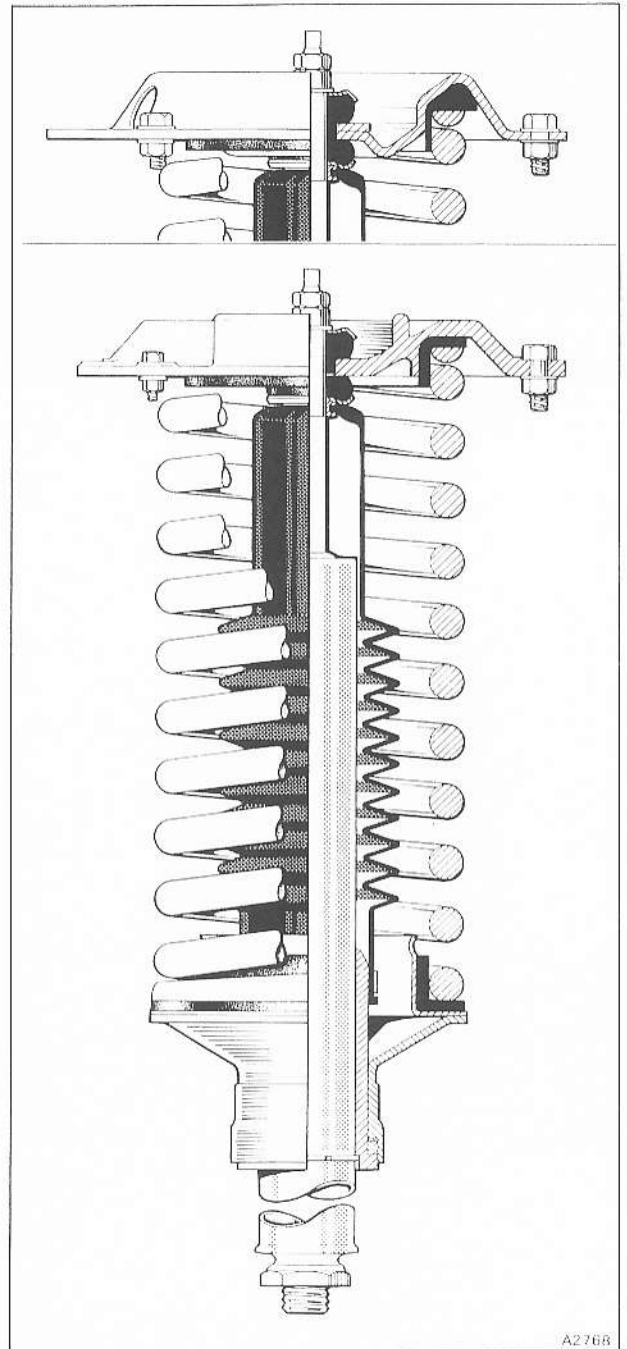

Fig. H4-1 Front road spring and shock damper assembly
The shock dampers (see fig. H4-1) are of the sealed unit type and no servicing is required. In the event of a damper becoming faulty, it should be discarded and a new damper fitted.
When using the spring retention tools RH8809 and RH7909 on cars fitted with pressed steel spring plates (see fig. H4-1), it will be necessary to use the adapter plate RH12053.
Note Care should be taken to avoid damaging the convoluted rubber sleeve situated between the spring plate collar and the upper damper mount (see figs. H4-1 and H4-2) during damper withdrawal. The sleeve will prevent the collar being withdrawn from the spring support plate. In the event of the collar having seized to the damper then carefully release and lift the spring from the spring support plate as described in the following operations.
5. Fit the washer onto the damper stem then insert the damper into the spring assembly. Ensure that all the components are correctly located (see fig. H4-1). Fit the top mount rubber, distance piece, cup washer, and plain washer onto the damper stem. Fit and torque tighten the retaining nut and lock-nut.